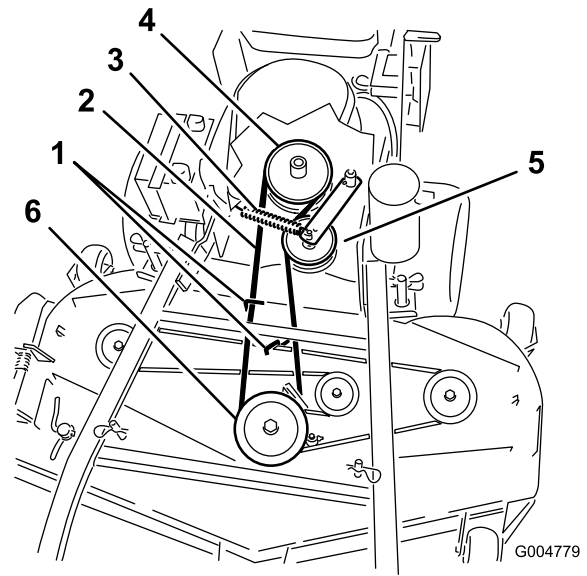
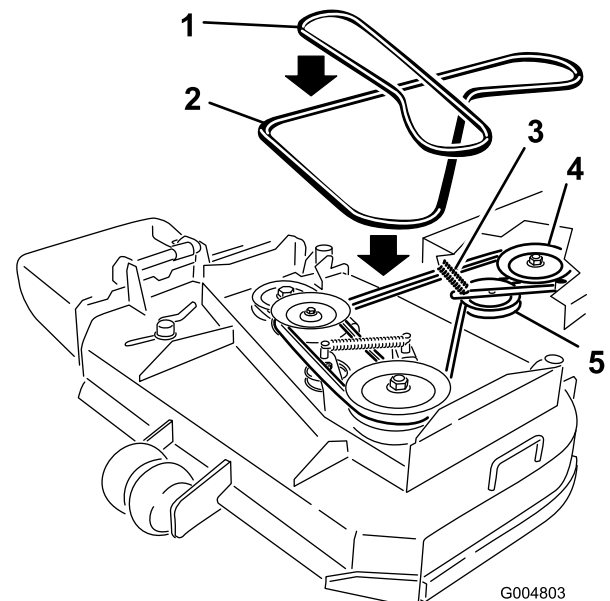

Figure 47
Figure 48
6. Roll the belt off of the center pulley on the mower deck (Figure 47). Refer to Figure 48 to roll the belt off left pulley for a 36 inch mower deck. Use caution when removing the belt as tension will increase because of the spring loaded idler pulley.
7. Remove the belt from the engine pulley and the spring loaded idler pulley (Figure 47). Refer to Figure 48 to remove the belt from the 36 inch mower deck pulleys.
8. Install the new belt onto the engine pulley and spring loaded idler pulley (Figure 47).
9. Roll the belt onto the center pulley on the mower deck (Figure 47). Use caution when install the belt as tension will increase because of the spring loaded idler pulley. Refer to Figure 48 to roll the new belt onto the left pulley for a 36 inch mower deck.
11. Adjust the belt guide an 1/8 inch (3 mm) from the belt for 40, 48 and 52 inch mower decks (Figure 47).